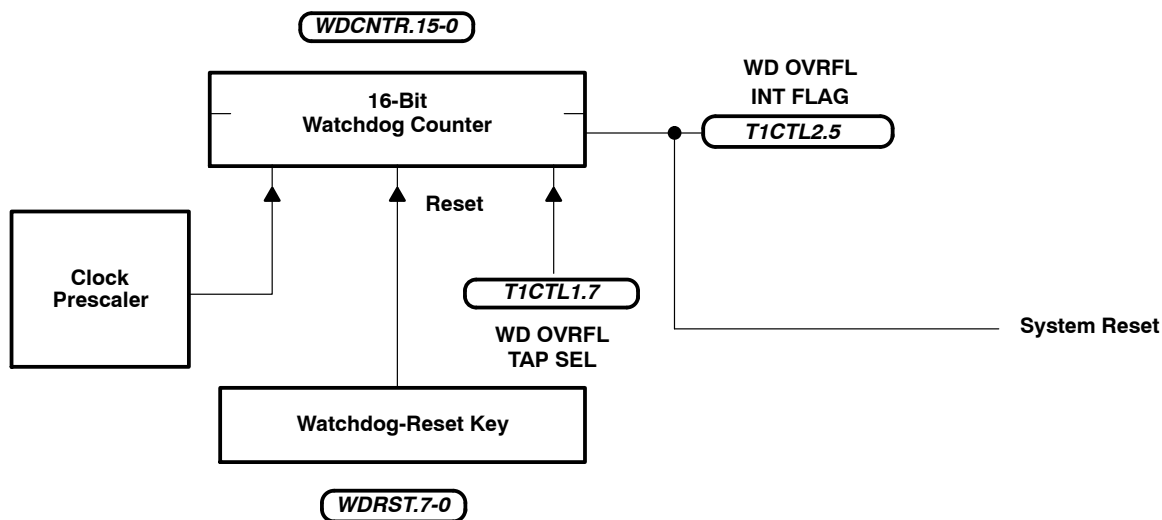

Figure 10. Hard Watchdog
- Hard watchdog configuration (see Figure 10) for mask-ROM devices: